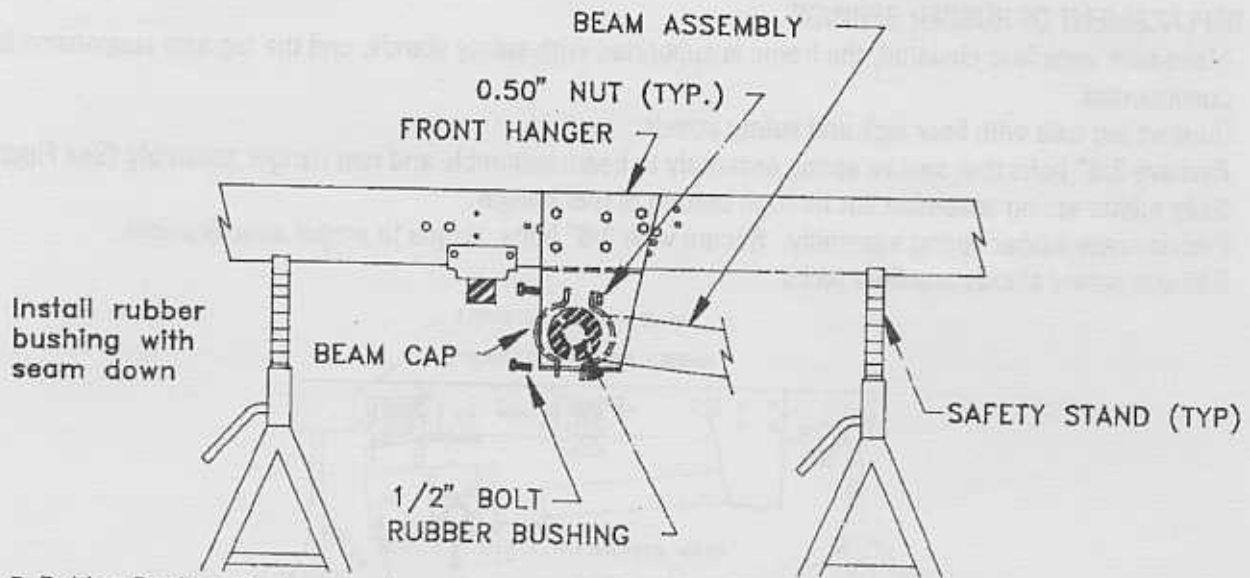

Figure 5: Rubber Bushing Replacement
- 3.) Remove 1/2" bolts from beam assembly and end caps (See Figure 5).
- 6.) Install new rubber bushings. Note: bushings must be positioned with the seam pointed downward (See Figure 5).